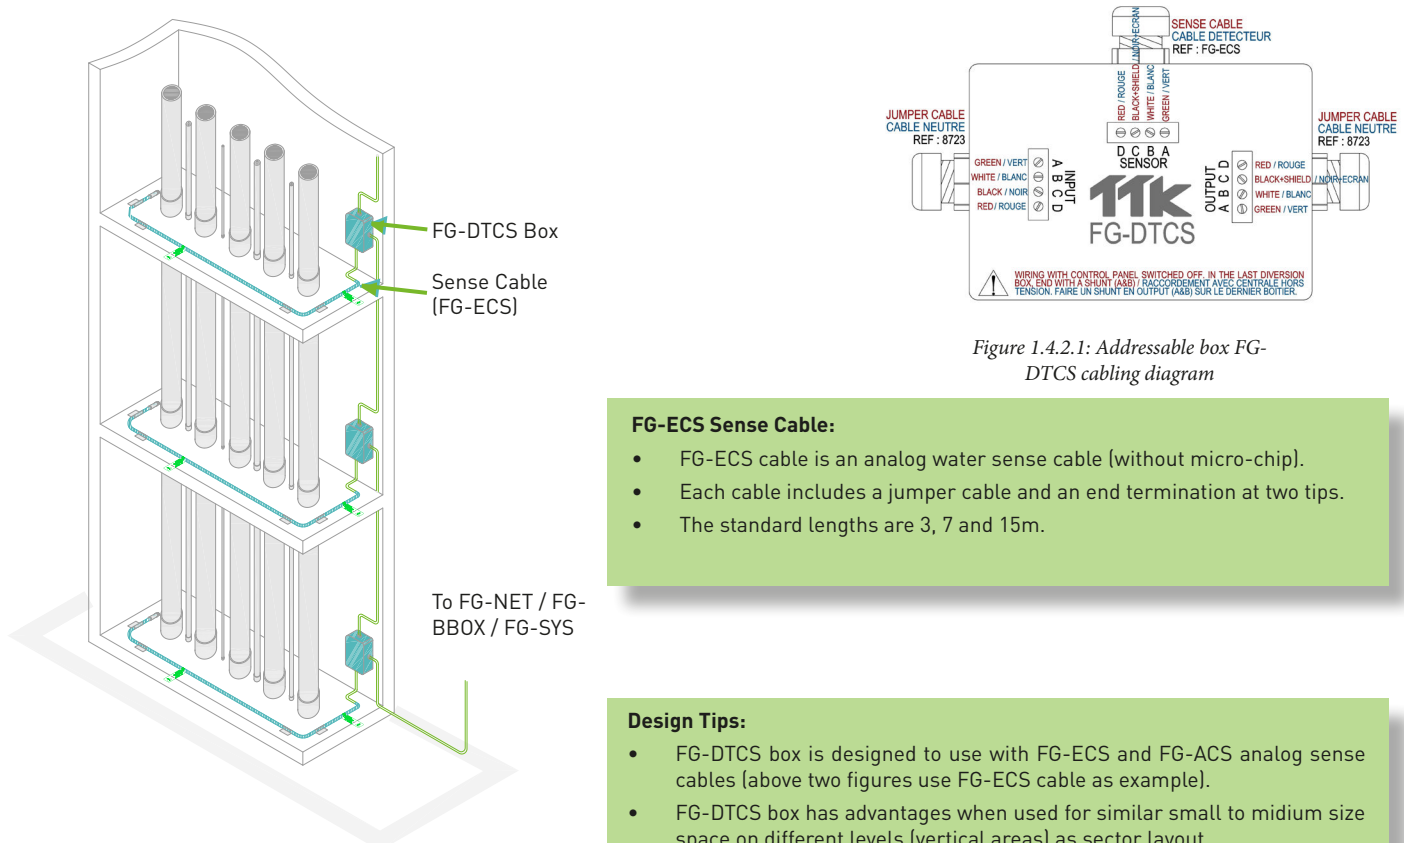

Figure 1.4.2.1: Addressable box FG-DTCS cabling diagram
- The addressable sector box FG-DTCS allows connecting digital unit FG-NET with analog sense cables and makes these cables addressable, in the meantime it has a unique advantage to cover vertical space (as illustrated in figure 1.4.2).